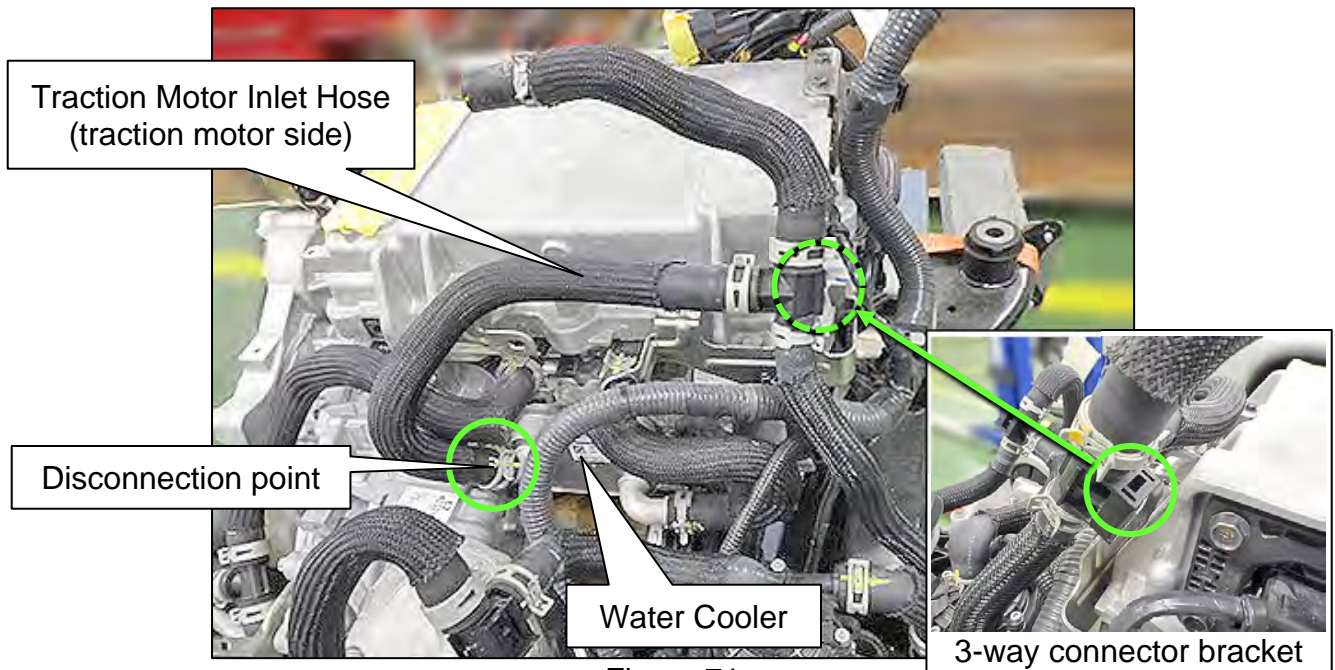

Figure 71
89. Detach the Traction Motor Inlet Hose (traction motor side) from its bracket at the 3-way connector where shown in Figure 71.
90. Disconnect the Traction Motor Inlet Hose (traction motor side) from the left side of the Water Cooler where shown in Figure 71.